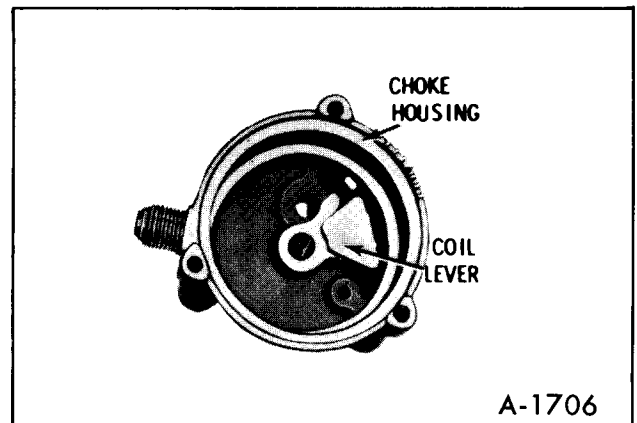
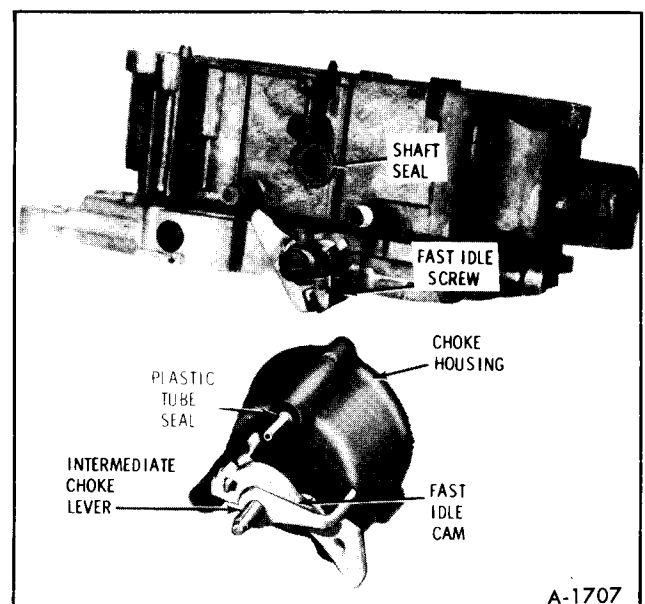

Figure 20—Choke Coil Lever
Figure 21—Choke Housing Sealing
3. To disassemble intermediate choke shaft from choke housing, remove coil lever retaining screw at end of shaft inside the choke housing (figure 20). Then remove thermostatic coil lever from flats on intermediate choke shaft. Remove intermediate choke shaft from the choke housing by sliding outward. The fast idle cam can now be removed from the intermediate choke shaft. See Figure 21.
2. Install fast idle cam onto the intermediate choke shaft (steps on fast idle cam face downward) as shown in Figure 21.